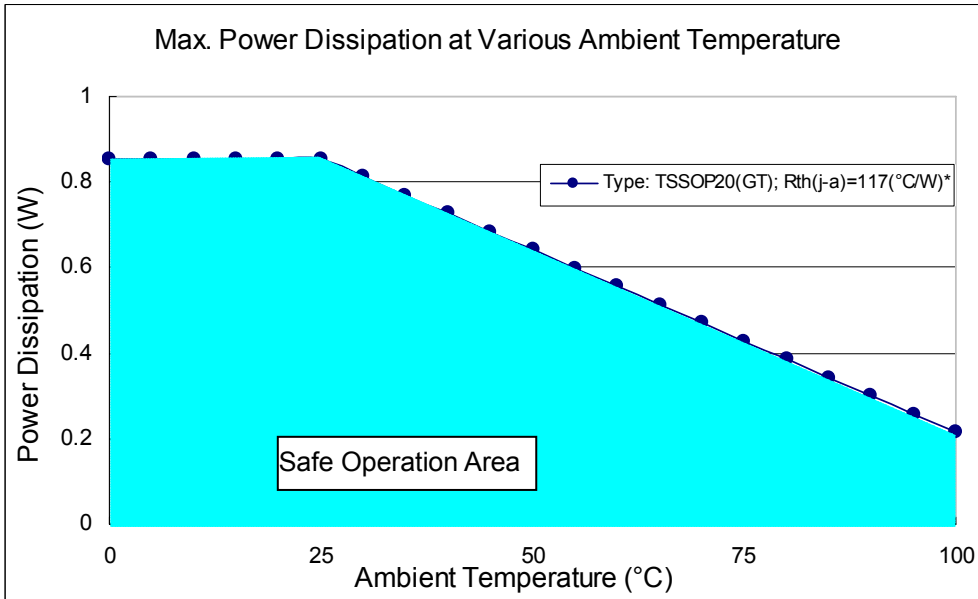

Figure 7
*Users must notice that the power dissipation (almost equaling to $I_{OUT} \times V_{DS}$) should be within the Safe Operation Area shown in Figure 7.